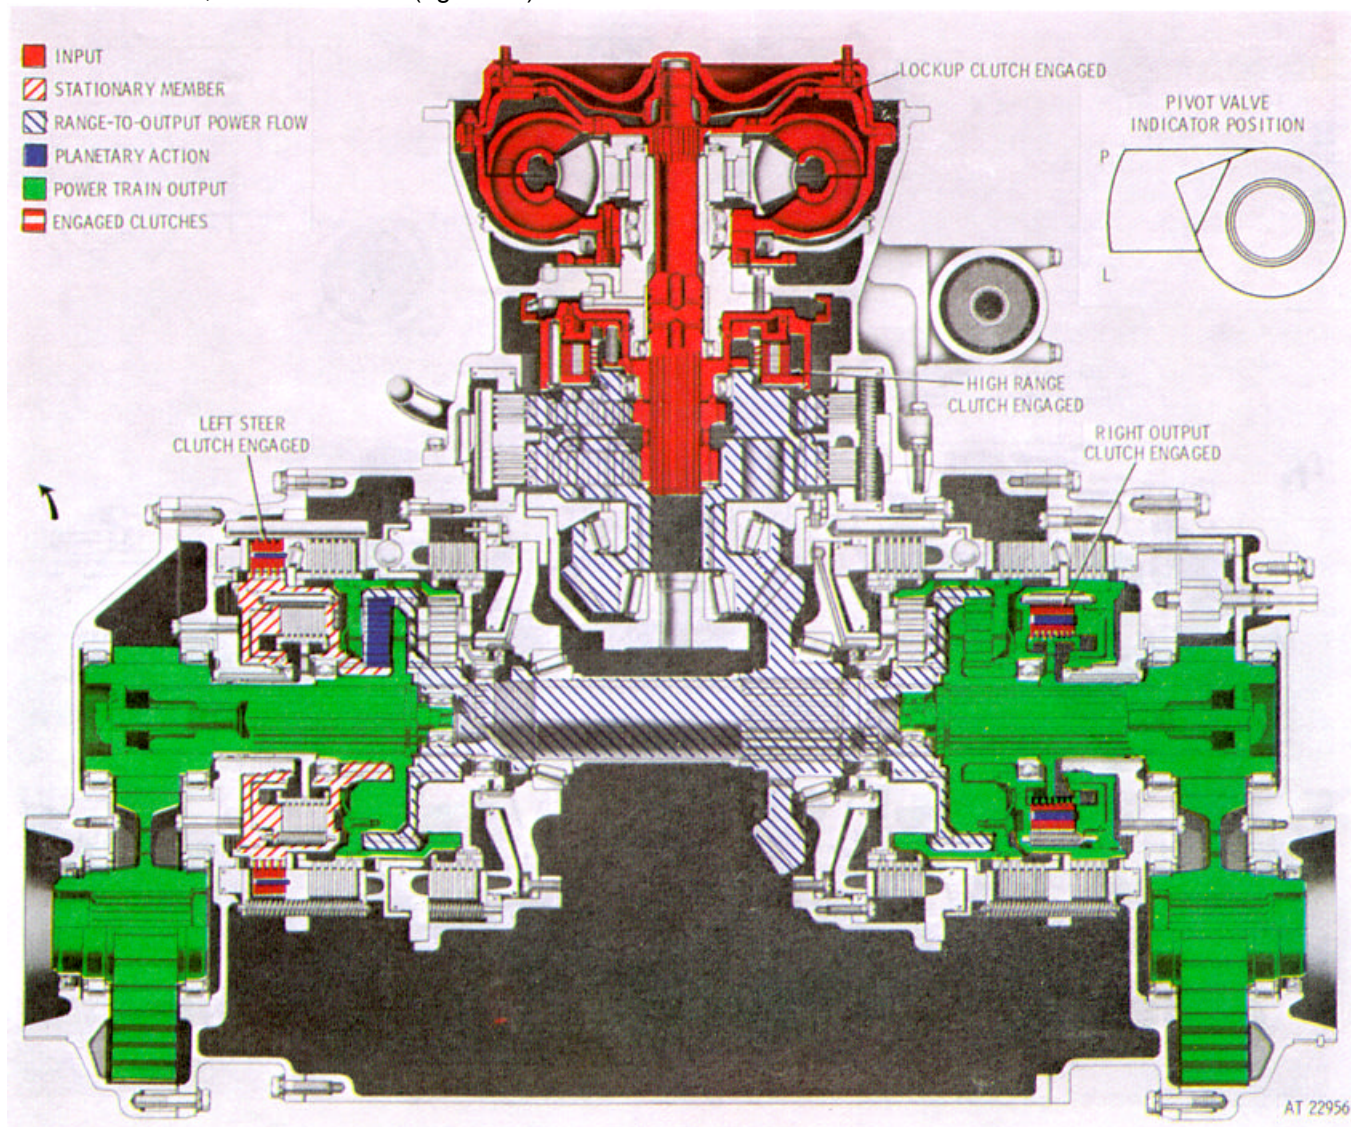

Figure 2-30. Fourth gear, pivot left steer operation-torque path.
(1) In third gear, pivot right steer, the range section operates the same as that described in paragraph 2-50c. In the output sections, the left output clutch and the right reverse-range clutch are engaged, causing the vehicle to pivot right about a point approximately at its center (during full steer). Lesser application of steer will lengthen the radius in which the vehicle travels.
(2) In third gear, pivot left steer, the transmission operates in the same manner except that the action described in (1), above, takes place in opposite sides of the transmission. The right output clutch and left reverse-range clutch are engaged causing the vehicle to pivot left (during full steer).
d. Fourth Gear, Pivot Left Steer (fig. 2-30).